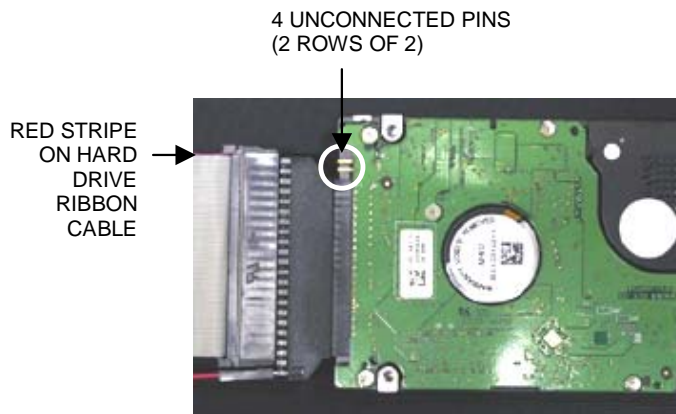

FIGURE 4 - CIRCUIT-BOARD SIDE OF HARD DRIVE
1. Connect the hard drive adapter and attached ribbon cable to the supplied hard drive according to Figure 4. Note that 4 pins on the hard drive are set off and will remain unconnected. Make certain that the red stripe on the ribbon cable (indicating pin-1 position) is inserted facing the unconnected pins. The writing on the plastic of the hard drive adapter and the black wire on the 2-pin power cable should be facing out when installed into the game.
2. Align the new hard drive in the hard drive mounting plate and secure it in place with the 4 existing screws and washers (Figure 4).